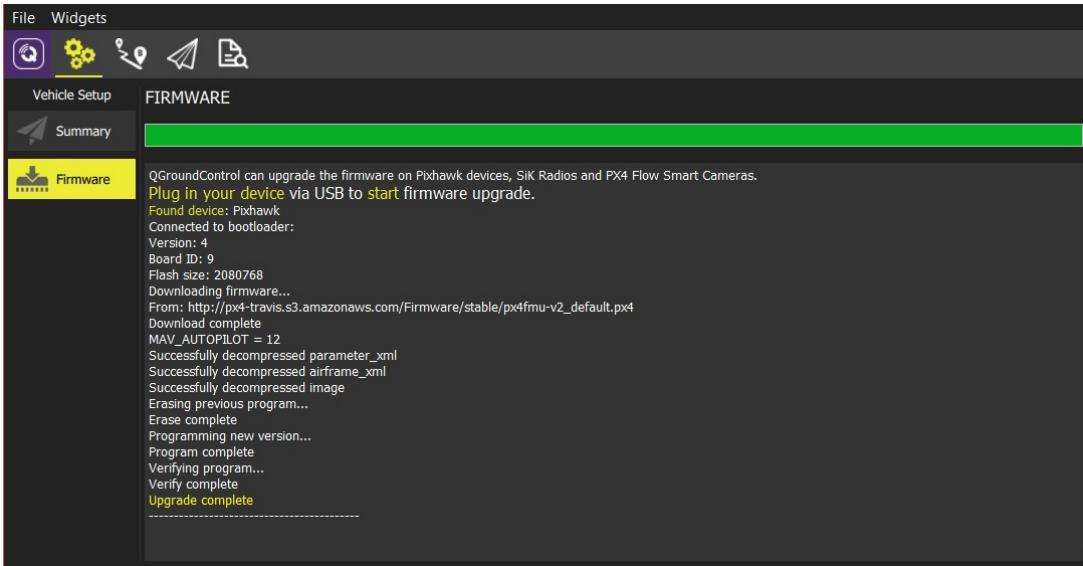

Figure 3.4: Firmware upgrade complete
5. Click the **OK** button to start the update. The firmware will then proceed through a number of upgrade steps (downloading new firmware, erasing old firmware etc.). Each step is printed to the screen and overall progress is displayed on a progress bar (figure 3.4). Once the firmware has completed loading, the device/vehicle will reboot and reconnect.